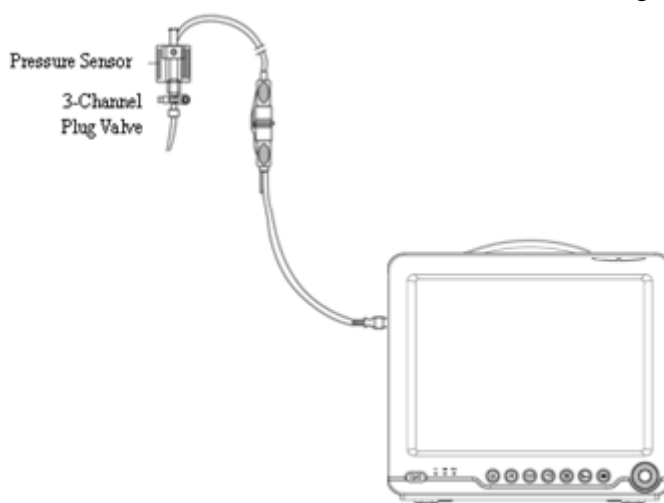

Figure 6.41 IBP Zero Calibration
- 1 Connect the pressure sensors, sensor cables and the monitor as referred to Figure 6.41.